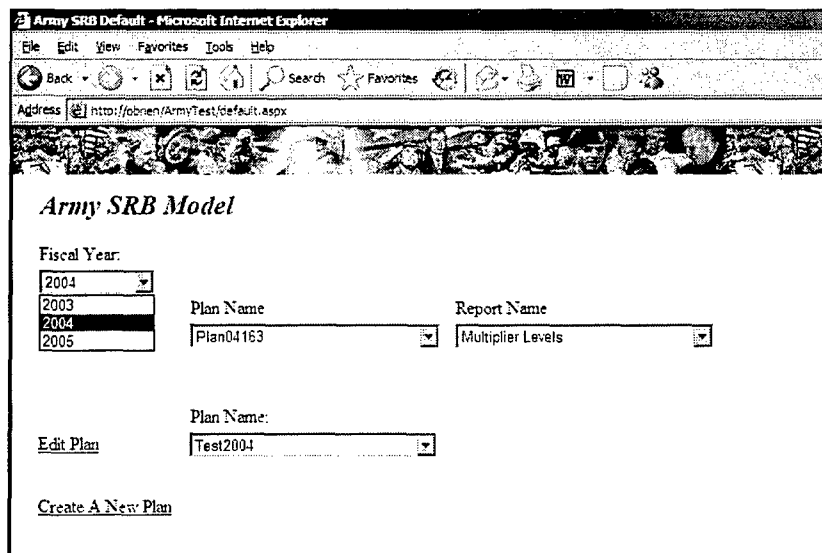

Figure 39. Selecting Fiscal Year
1. Select a fiscal year from the dropdown box as shown in Figure 39. The main page will then display only the plans available for that fiscal year.